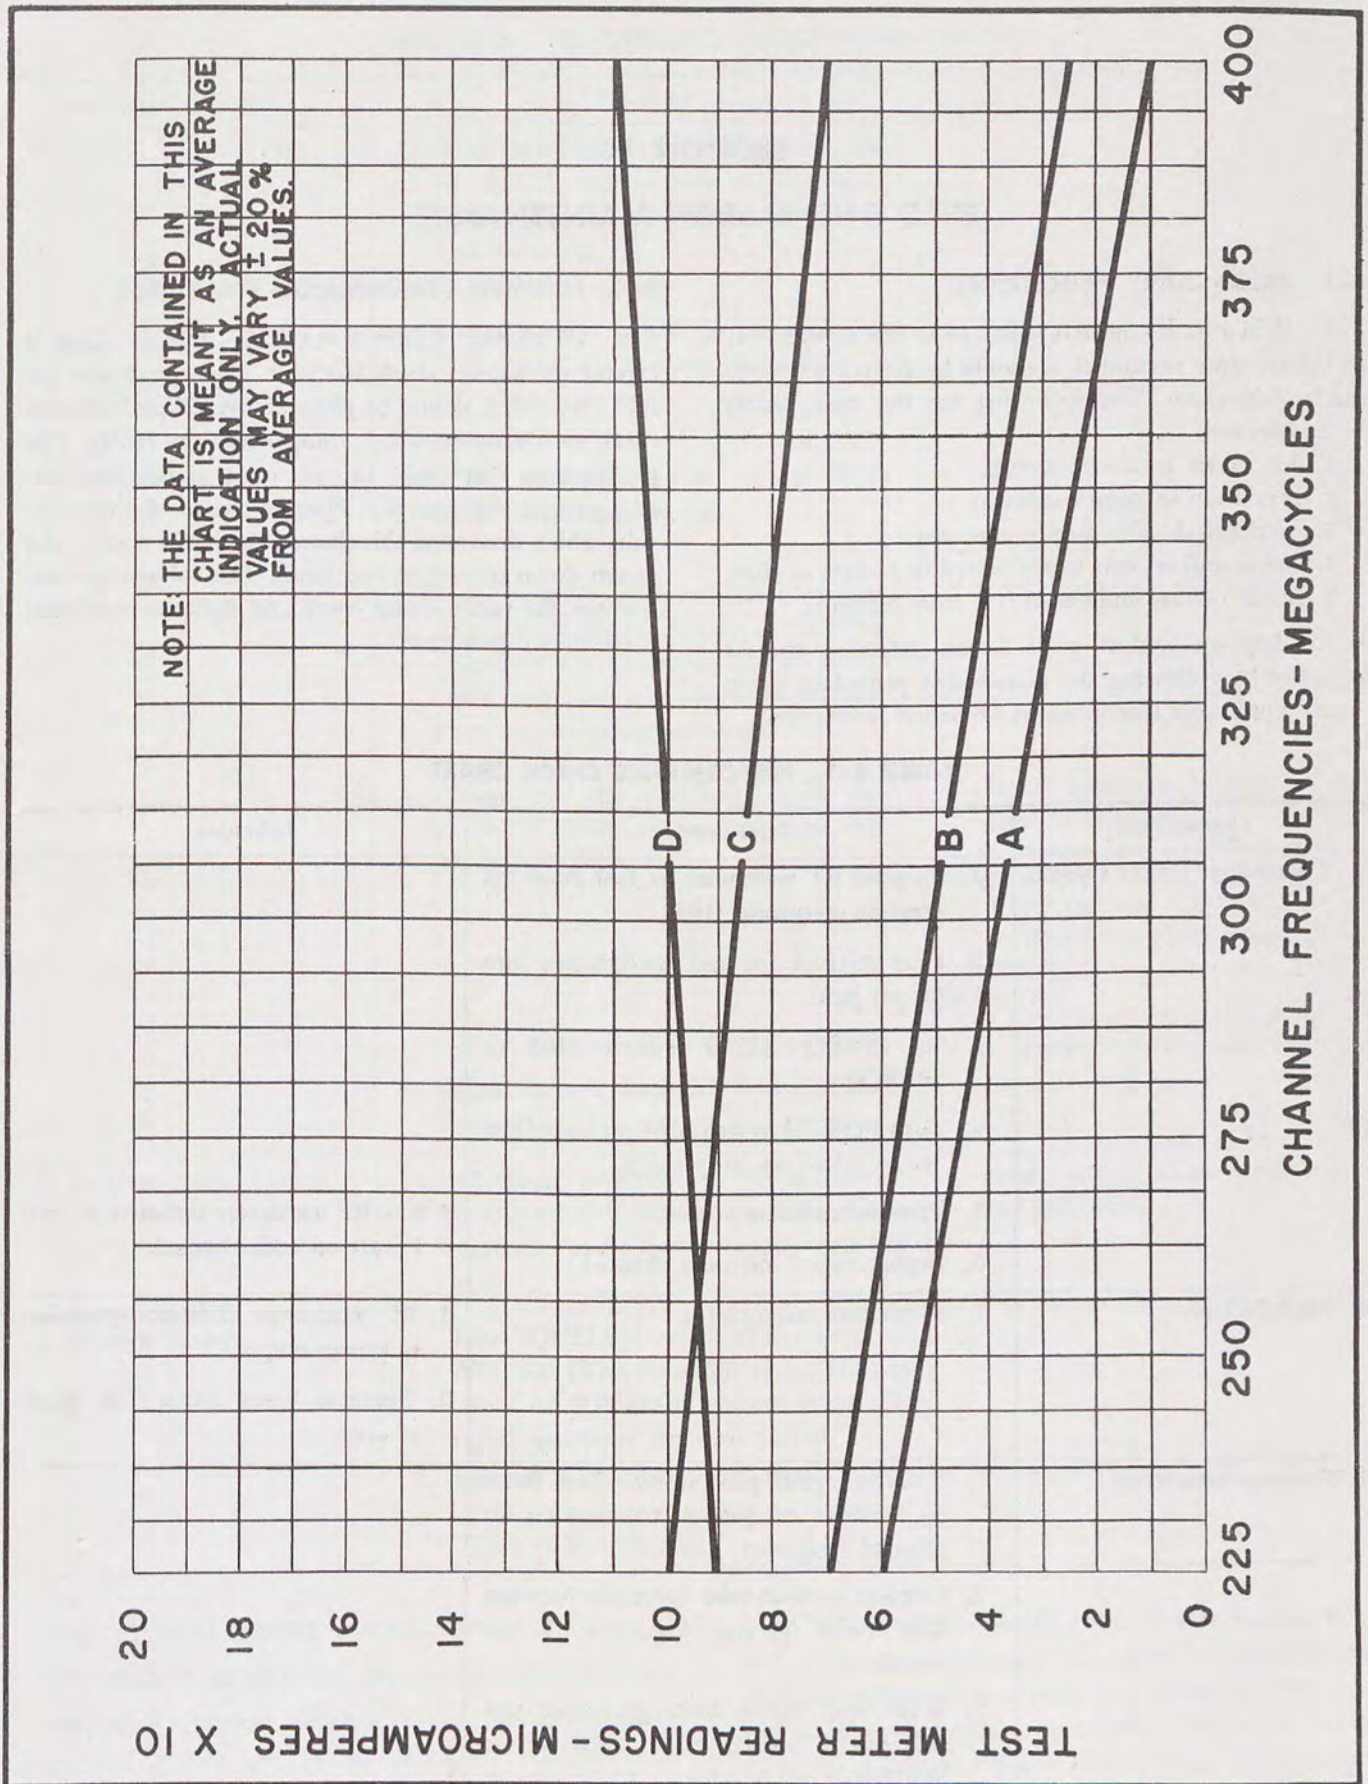

Figure 5-2. Radio Receiver-Transmitter RT-271/PRC-14, Tuning Curve
7. Adjust oscillator turret coil with alignment tool through hole A in bottom of case nearest channel selector assembly. Maximum reading on Ammeter ME-68/PRC-14 is an indication of correct adjustment. This reading should agree closely with that given by Curve A of Figure 5-2.
8. Transfer P109 to J112 and adjust ceramic coil form in doubler turret (use middle hole marked B in bottom of case) for a maximum indication on the Ammeter. This should agree closely with that given by Curve B of Figure 5-2.
9. Transfer P109 to J113 and adjust second doubler coil (use hole C in case, farthest away from channel selector assembly) for a maximum indication on the Ammeter. This should agree closely with that given by Curve C of Figure 5-2.
10. Transfer P109 to J114. Adjust channel selector screw with screwdriver through hole in housing. This is reached by removing the yellow plug in the hub of the channel selector knob. Adjust for maximum power output, indicated by a peak reading on the Ammeter. This reading should agree closely with that given by Curve D of Figure 5-2.